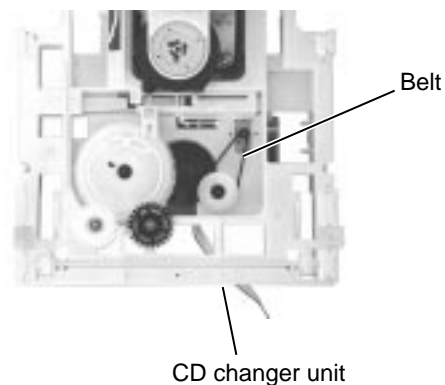

Fig.33
■Removing the belt, the CD servo board and the switch board (See Fig.33 and 34)